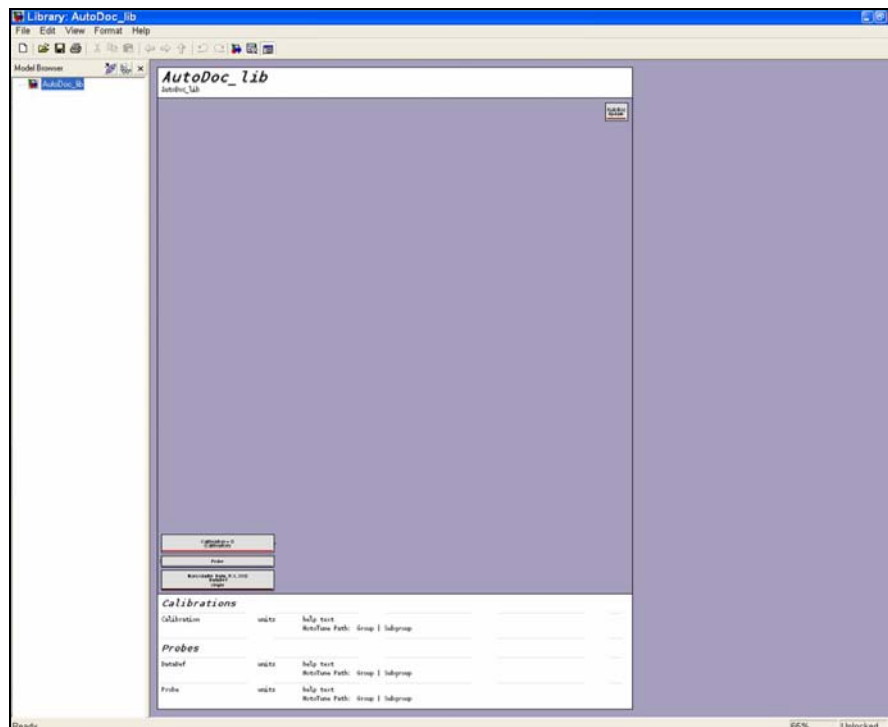

Figure 1: AutoDoc_lib library file
2. **Open the AutoDoc library.** Open the AutoDoc_lib.mdl library file (Figure 1) from the AutoDocTool folder.